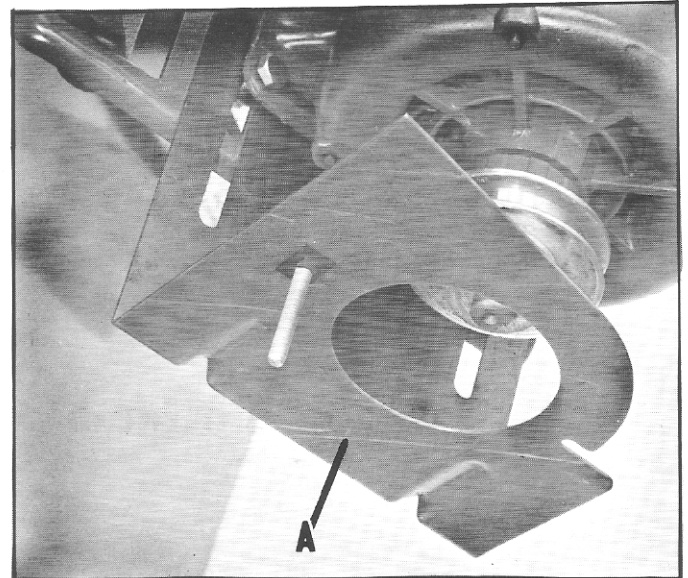

Fig. 9
5. Slide the belt and pulley guard bracket (A) between the motor plate and motor mounting plate, as shown in Fig. 9.